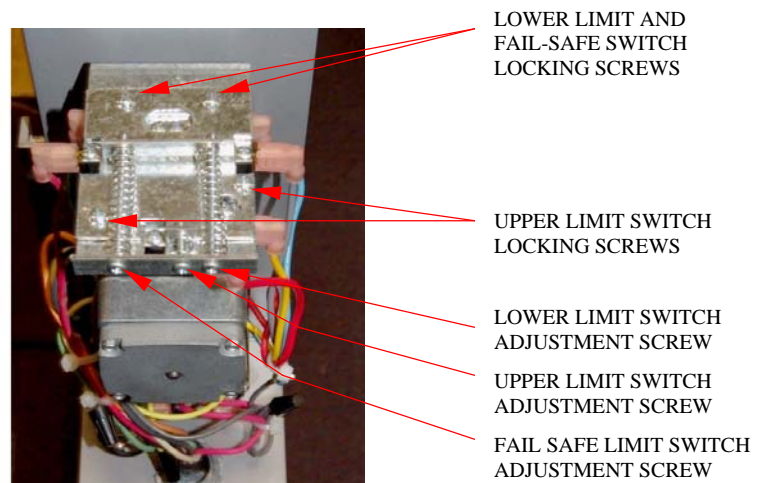

FIG. 5
7 Loosen the Upper-Limit switch locking screws (FIG. 5) approximately one turn.
13 Loosen the Upper-Limit switch locking screws (FIG. 5) and turn the Upper-Limit switch adjustment screw (center screw) counter-clockwise until you hear the faint “click” of the limit switch.
- 18 Loosen the Lower-Limit switch locking screws (FIG. 5)
- 24 Loosen the Lower-Limit switch locking screws (FIG. 5) and turn the Lower-Limit switch and Fail-Safe Limit switch adjustment screws clockwise, until the switch opens.
- 30 Loosen the Lower-Limit switch locking screws (FIG. 5)